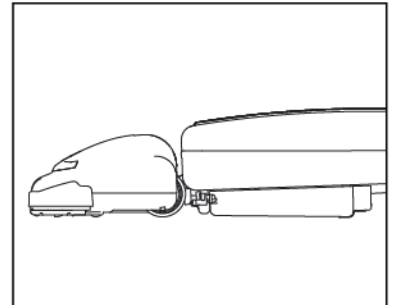

Fig. 3
- Continue to lower the handle to enable the vacuum to lay flat on the floor to clean under furniture (Fig. 3).